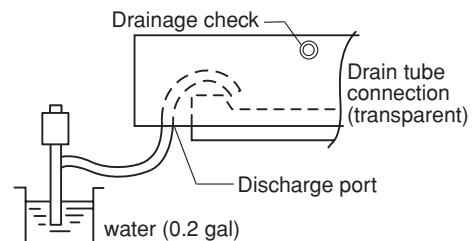

Fig. 3-45
- (1) Connect power to the power terminal board (R, S terminals) inside the electrical component box.
- (2) Pour about 0.2 gal of water into the drain pan using a siphon pump through the air outlet grille. (Fig. 3-45)
- (3) Short the check pin (CHK) on the indoor control board and operate the drain pump. Check the water flow through the transparent drain pipe and see if there is any leakage.